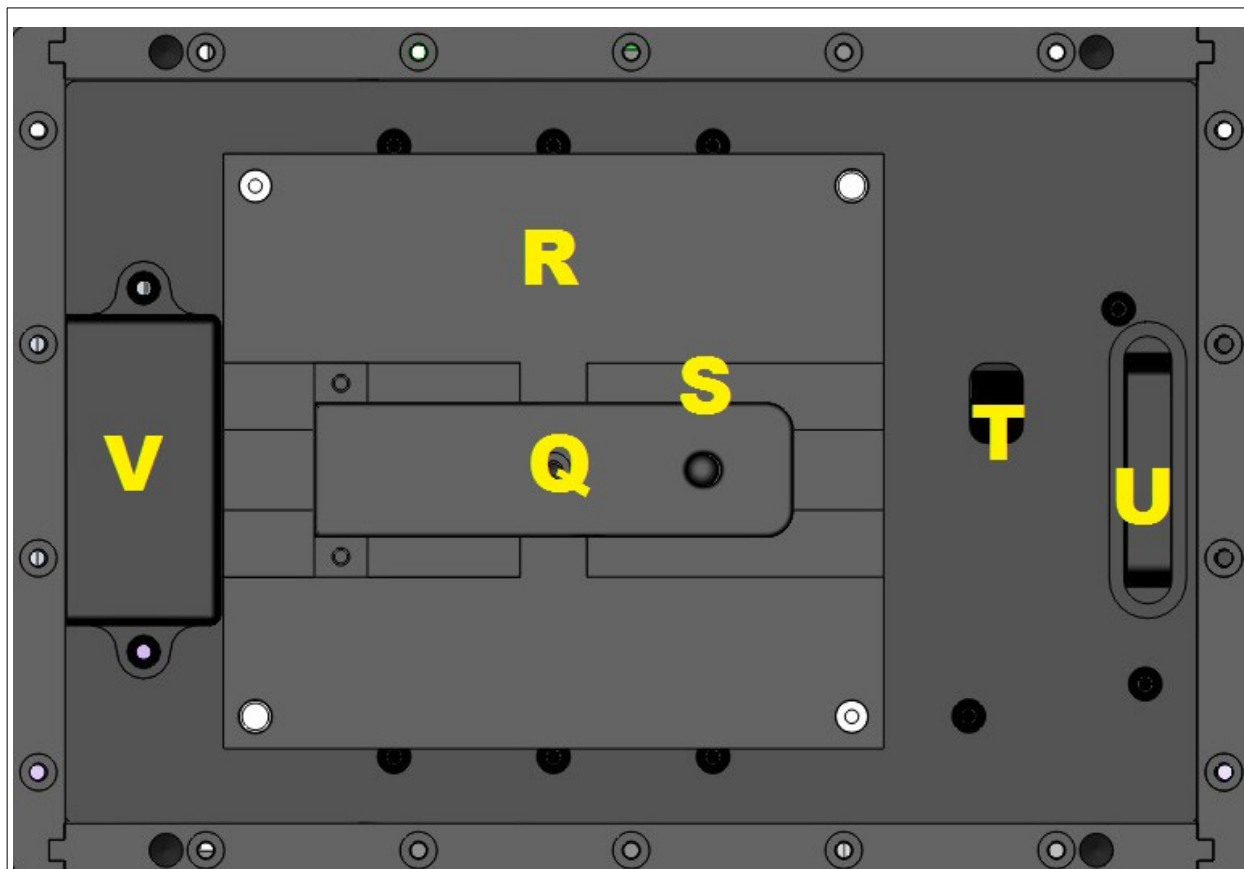

Figure 18. Illustration of the components behind the optics cover.
- Z) Reflector Arm:** Reflects both excitation and emission light back into the flow cell (also seen in *Figure 18*).